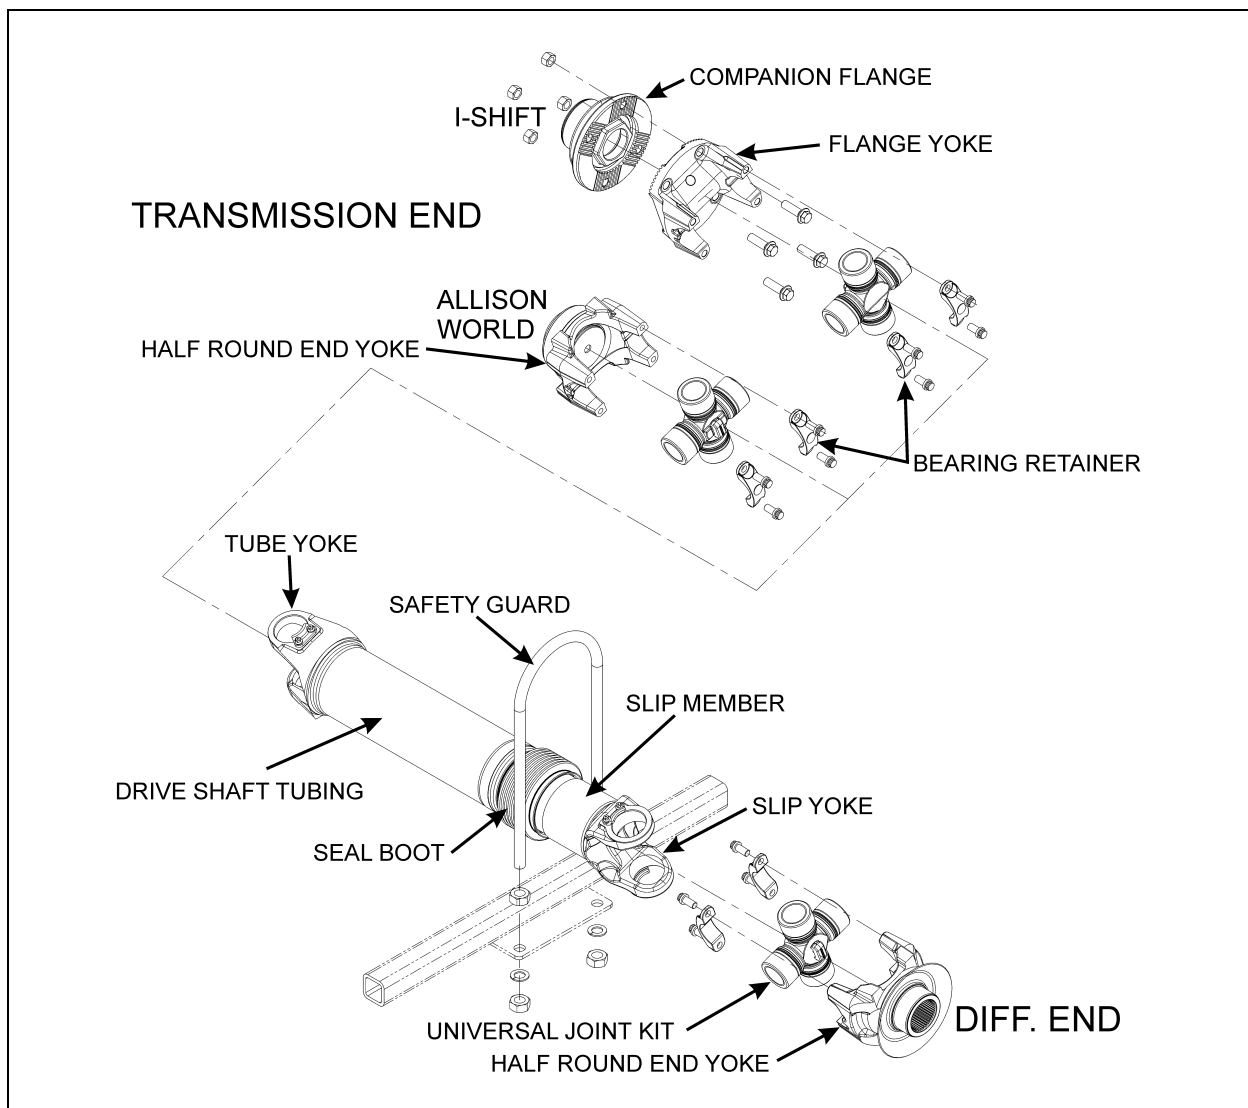

FIGURE 1: PROPELLER SHAFT ASSEMBLY (TYPICAL)
The propeller shaft transmits power from the transmission to the differential (Figure 1). Refer to paragraph "6. SPECIFICATIONS" at the end of this section for propeller shaft length. The propeller shaft is "Dana Spicer Life Series SPL250" type with tubular shafts. It is provided with two heavy-duty universal joints (Figure 1).
- Screw bolts to the specified torque (Figure 1).